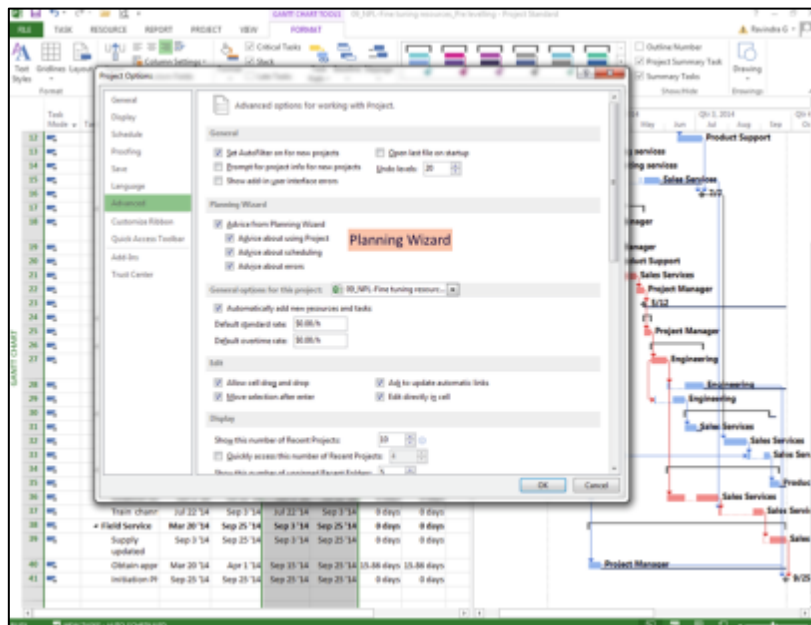

Fig.5.9: Turning ON Planning Wizard
1. To turn it ON again, (Fig.5.9)